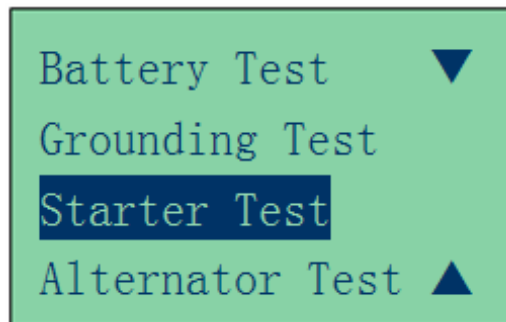

Figure 34
2. From the main MENU, select 'Starter Test' by scrolling down using key. (Fig.34)